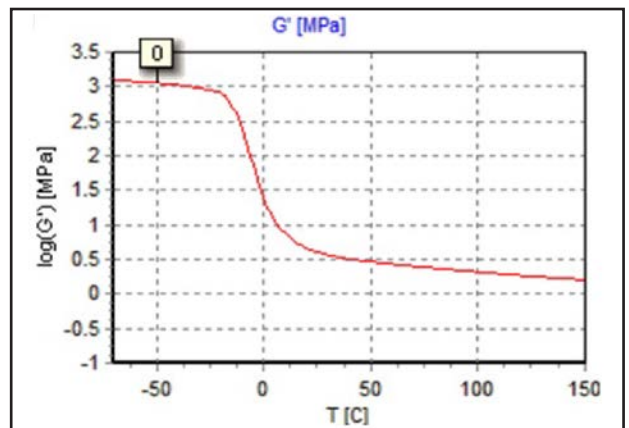

Figure 3 Modulus as a function of temperature of a typical NBR material.
3. The variation of rubber modulus with temperature. A typical curve is shown in Figure 3. The prediction of seal friction is a complex task and requires a model being able to predict the temperature in the seal and in the contact and to take into account the variations mentioned in the previous paragraph.